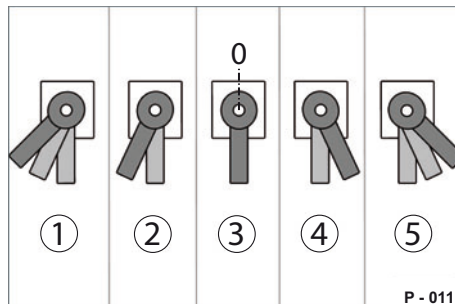

Fig. 40 Valve lever positions
- ▶ Turn the valve lever (Fig. 40/5) anti-clockwise two levels.
- ▶ When the height has been achieved, turn the valve lever back one stage, into the "Stop" position (Fig. 40/4).
- ▶ Turn the valve lever clockwise (Fig. 40/1).
- ▶ When the height has been achieved, turn the valve lever back one stage, into the "Stop" position (Fig. 40/2).